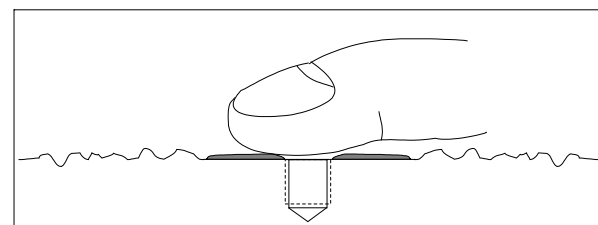

**Figure 2.** Mounting Surface Preparation
**STEP 1:** First, prepare a smooth, flat mounting surface, then drill and tap a mounting hole in the center of this area as shown in Figure 2 and in accordance with the **Installation Drawing** for the specific sensor that is being mounted.